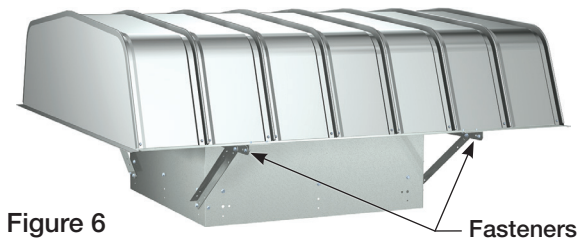

Figure 6
1. Remove 2 fasteners shown in Figure 6.